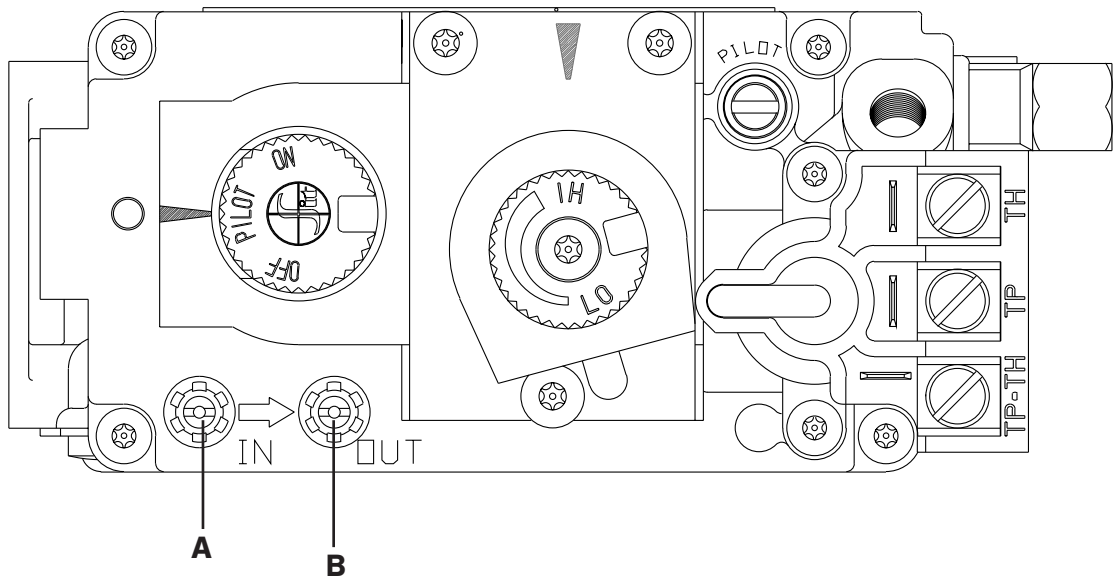

Figure 10.1, Pressure Check Taps Locations
1. Loosen the inlet (IN) pressure tap by turning screw counterclockwise. See (A) in Figure 10.1.
8. Disconnect hose and tighten the inlet (IN) pressure tap by turning screw clockwise. Screw should be snug. Do not over tighten.
9. Relight pilot and turn the gas control knob to ON. Reattach manometer to the inlet pressure tap (A) to verify the tap is completely sealed. Manometer should read no pressure.
2. Loosen manifold (OUT) pressure tap by turning screw counterclockwise. See (B) in Figure 10.1.
7. Attach the manometer to the manifold pressure tap (B) to verify it is completely sealed. The manometer should read no pressure when the rocker switch is pressed to ON.